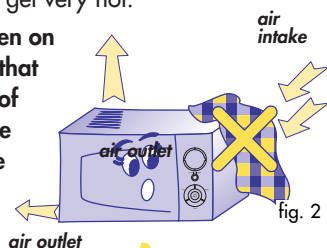

fig. 2
- 6) Do not block the air intake. In particular, do not set anything atop the oven and check to be certain that the air outlet slots (located above, under and in the back of the oven) are ALWAYS FREE from obstruction (see Figs. 2 and 3).
- 7) Place the support unit (G) in the middle of the circular housing and set the turntable (F) atop the support. The spindle (D) must match up perfectly with its housing in the middle of the turntable.